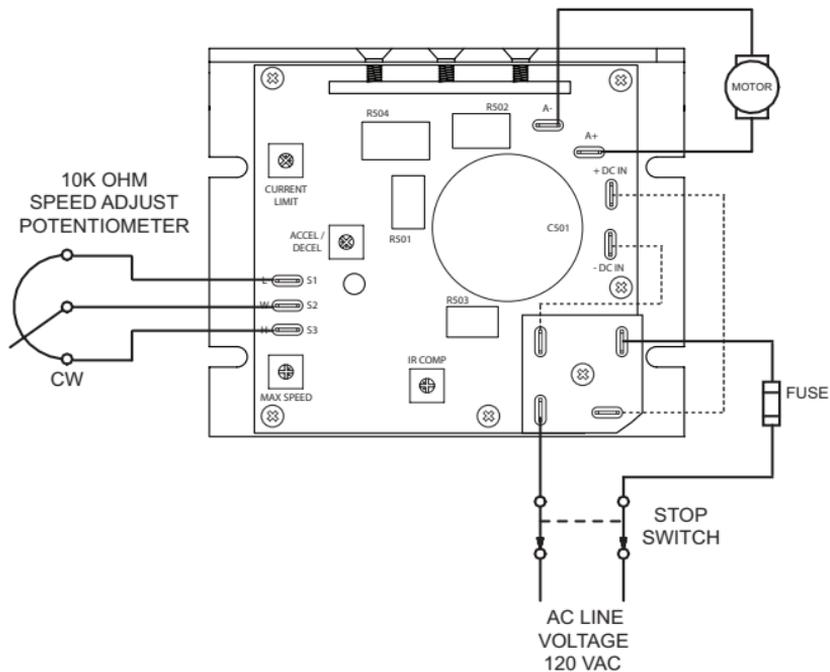
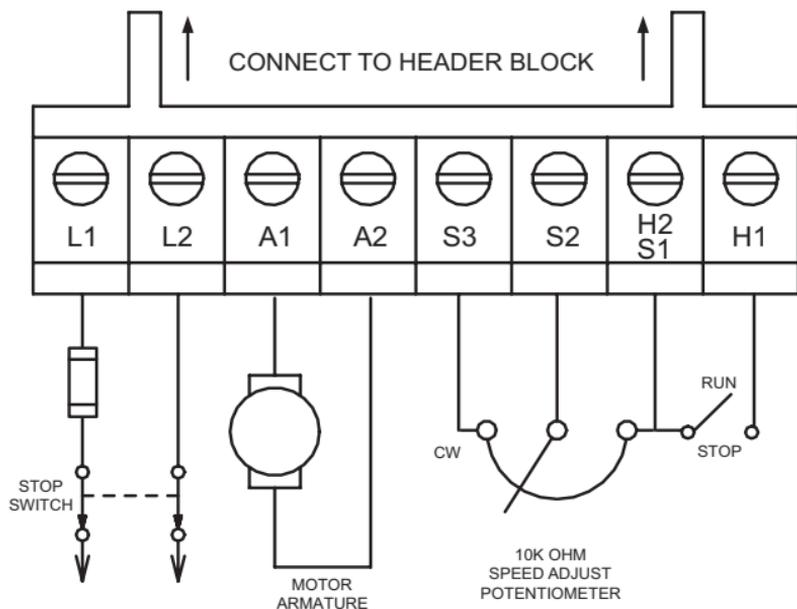

Figure 7. PWP100-2, PWP100-5, and PWP100-10 Connections
Figure 8. PWP100-2-QDT Connections
**ACE strongly recommends the installation of a master power switch in the voltage input line, as shown in Figure 7 (page 16) and Figure 8 (page 17).** The switch contacts should be rated at a minimum of 200% of motor nameplate current and 250 volts.
Connect the AC line power leads to terminals L1 and L2. ACE recommends the use of a single-throw, double-pole master power switch. The switch should be rated at a minimum of 250 volts and 200% of motor current. Refer to Figure 7 on page 16.
Connect a DC motor to terminals A1 and A2 as shown in Figure 7 on page 16. Ensure that the motor voltage rating is consistent with the drive's output voltage.
Use a 10K ohm, 1/4 W potentiometer for speed control. Connect the counter-clockwise end of the potentiometer to S1, the wiper to S2, and the clockwise end to S3. If the potentiometer works inversely of the desired functionality (e.g. to increase motor speed you must turn the potentiometer counterclockwise), power off the drive and swap the S1 and S3 connections. Refer to Figure 7 on page 16.
For this reason, ACE strongly recommends installing an emergency stop switch on both AC line inputs (see Figures 7, 8, and 9 on pages 16 through 18).
Short the inhibit terminals (H1 and H2/S1) to coast the motor to minimum speed (see Figure 8 on page 17 for inhibit wiring connection). Open the inhibit terminals to accelerate the motor to set speed.